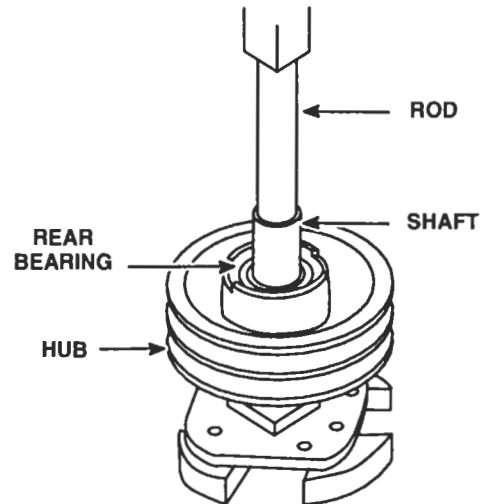

Figure 3. Fan Shaft and Front Roller Bearing Removal
4. Withdraw the hub and bearing assembly from the shaft. It may be necessary to tap the end of the shaft with a soft hammer to loosen the hub assembly (Figure 3.)